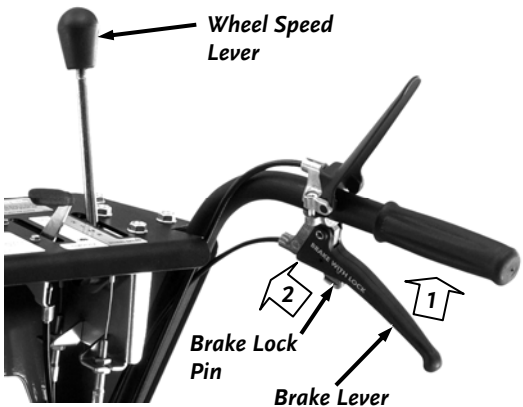

Figure 22
1. Shift the Wheel Speed Lever to Neutral **N** (*Figure 22*)